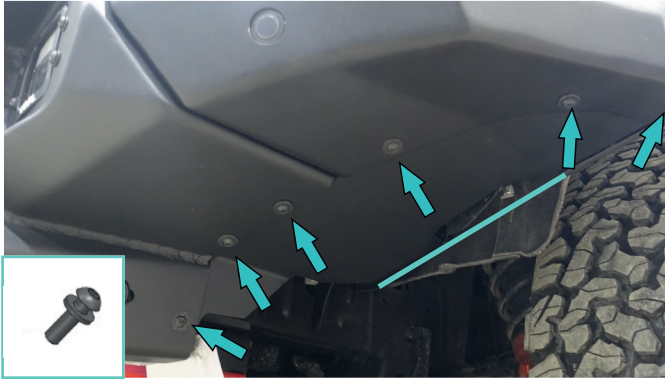

Fig.79
74. Install flaps (item 11, 12) using screws M6x20, washers 6 (item D, R) to the bumper body (6 мест) on each side. Push the flap to plastic fender and mark future cutting line. Cut plastic fender following marked cutting line using jig-saw or shears (fig.79).